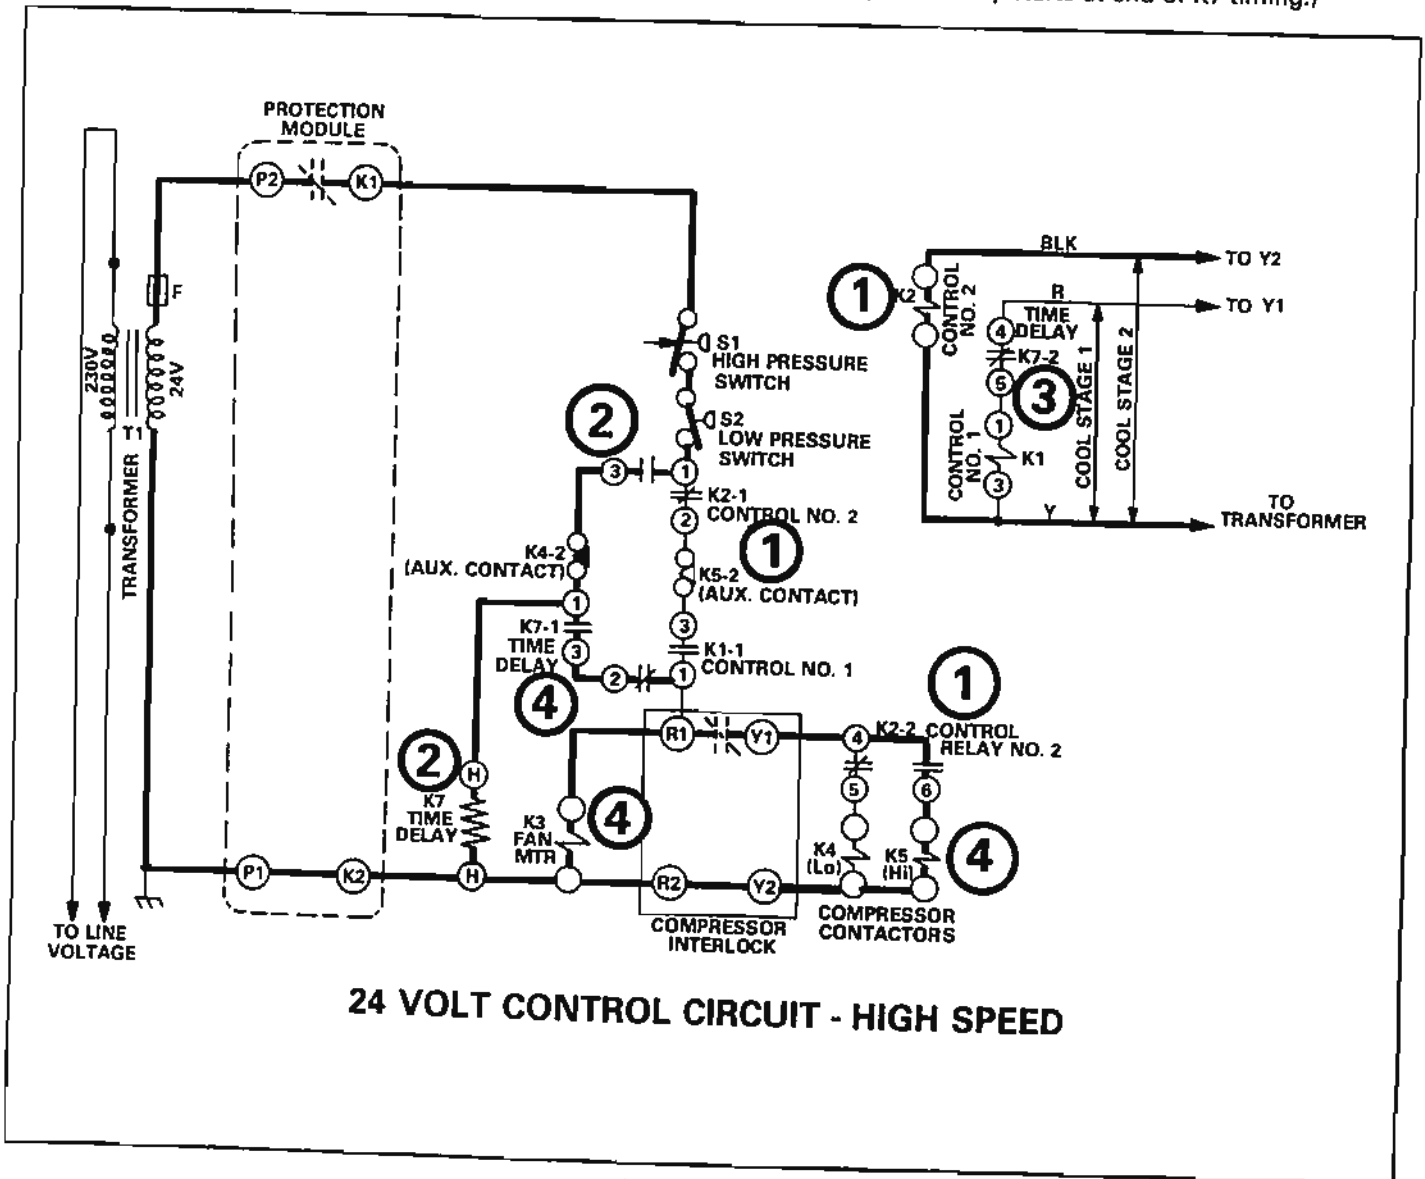

FIGURE 17
- A - 24 Volt Control Circuit (Figure 17)
## A - 24 Volt Control Circuit (Figure 17)